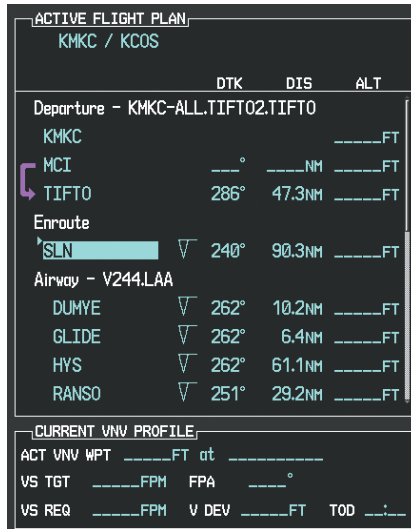

Figure 5-107 Begin Adding V4 to the Flight Plan
- b) The desired entry point for V4 (TOP) must be entered. Turn the large **FMS** Knob to highlight the desired flight plan insertion point (SLN) as shown in Figure 5-107. When the V4 entry point (TOP) is inserted, it is placed immediately above the highlighted waypoint (SLN).